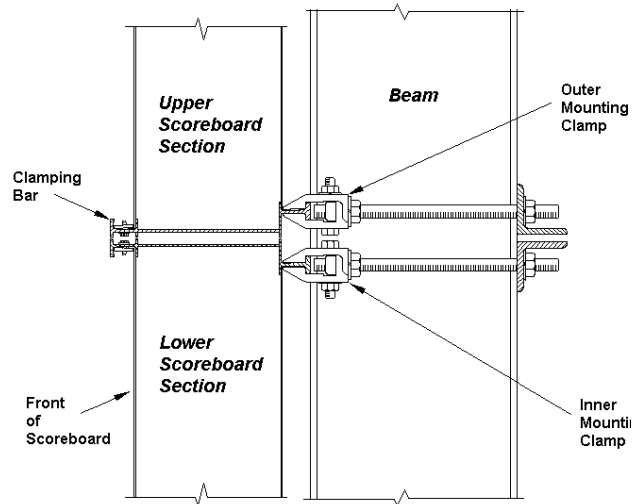

Figure 4: Multi-Section Scoreboard Mounting (Side View)
2. Insert a 1/2" square nut into each mounting clamp. From the rear, screw a threaded rod into each of the nuts, as shown in **Figure 4** (see next page).
The digit circuit board, the platform for the LEDs, is mounted to the back of the digit panel. See **Figure 4** below. Do not attempt to remove individual LEDs. In the case of a malfunctioning board, replace the entire digit panel.